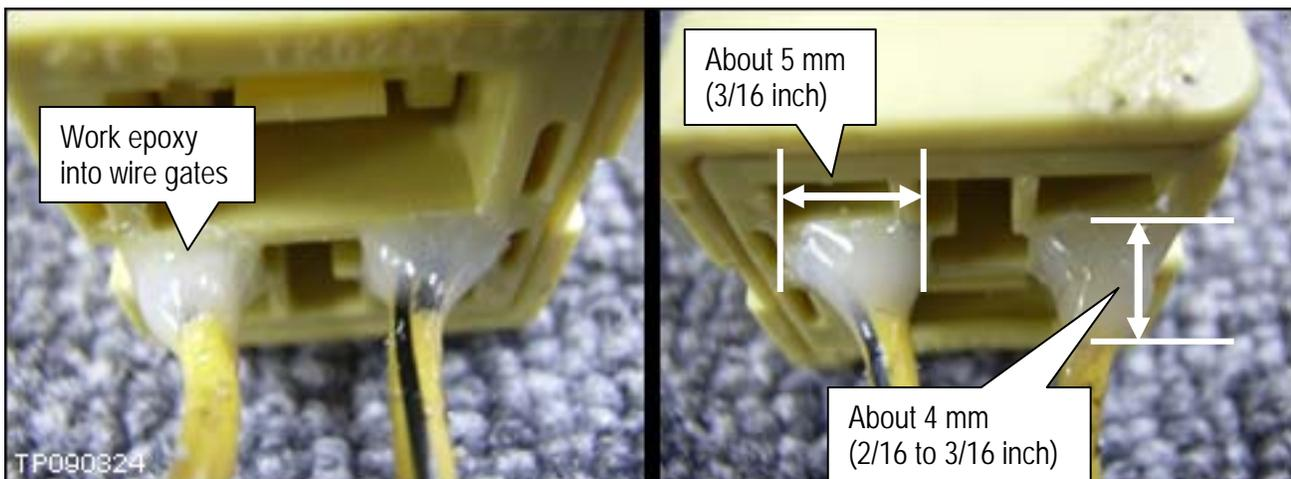

Figure 6
12. Apply the epoxy to the back side (wire gates) of the side air bag harness connector (see Figure 6).
- Apply epoxy about 5 mm wide around the wire and about 4 mm from the connector (see Figure 6).